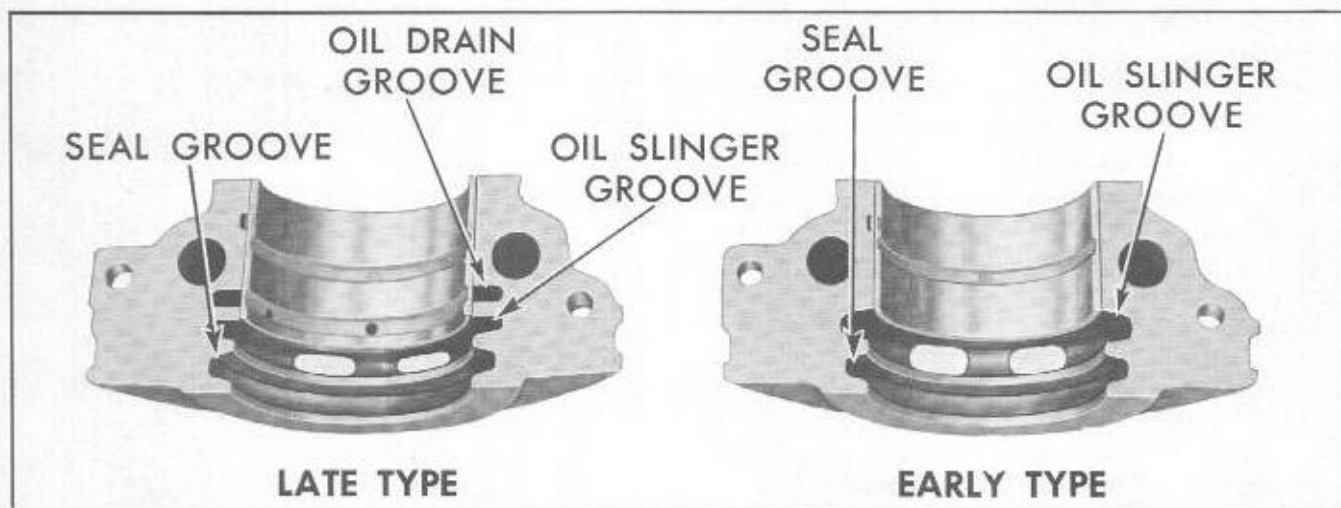

Fig. 6-74 Rear Main Bearing Caps
3. Position main bearing shells in block. **NOTE:** Two different type rear main bearing caps and shells are used (Fig. 6-74). The early type rear main bearing cap has two grooves, one for the oil slinger and the other for the seal. The upper and lower bearing shells are interchangeable, both having oil grooves and oil holes in same location.
The late type rear main bearing cap has three grooves, one for oil drain, one for the oil slinger and the other for the seal (Fig. 6-74). The bearing shells have two oil grooves. The front oil groove has an oil hole in the center while the rear oil groove has three oil drain holes evenly spaced. The upper and lower shells are not interchangeable due to location of tang slots in block and cap. For the front, front center, center, and rear center bearings install the shells with the oil grooves in the cylinder block (upper) position